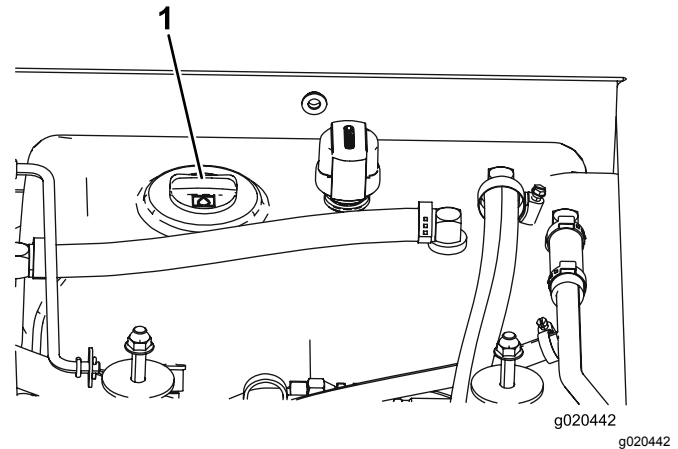

Figure 14
3. Clean the area around the filler neck and cap of the hydraulic tank (Figure 14). Remove the cap from the filler neck.